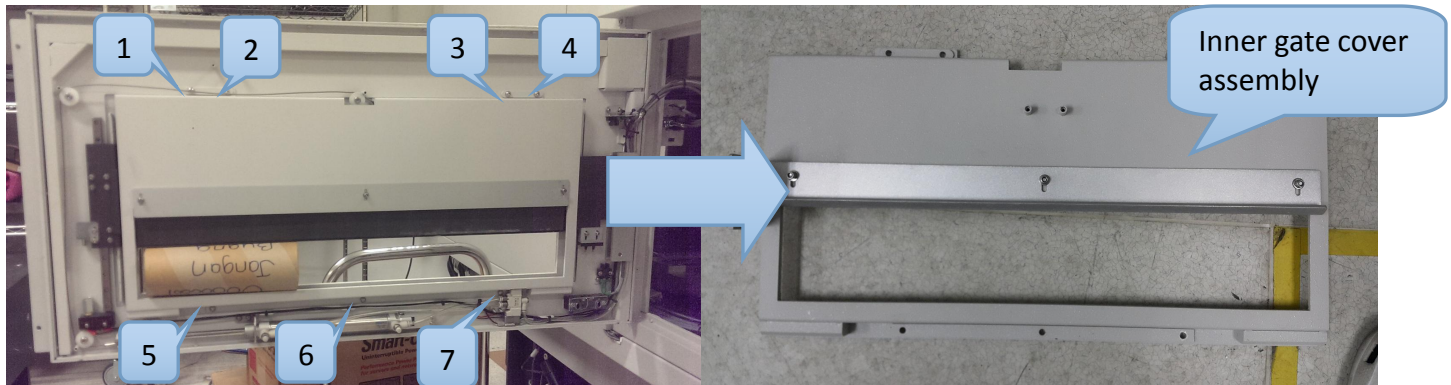

Figure 3 Inner gate cover assembly
5. Remove 7 x screws as Figure 3 and remove the Inner gate cover assembly from outer barrier.